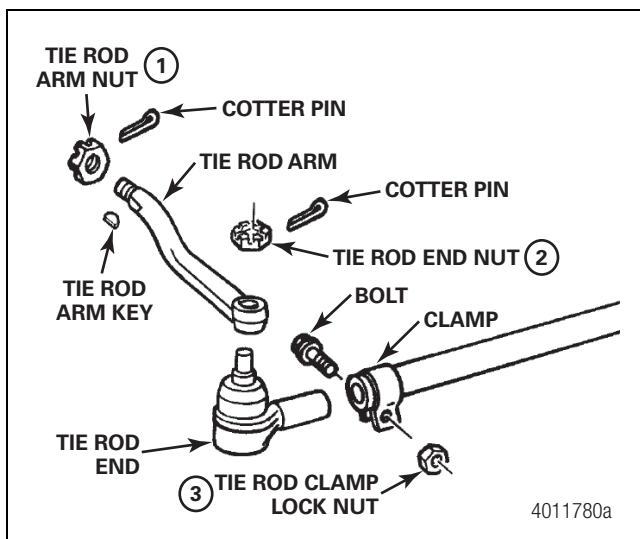

Figure 2
4. Remove the cotter pin that secures the tie rod end castle nut to the tie rod arm. Figure 2.
1. Remove the cotter pin and nut that fasten the tie rod end to the tie rod arm. Figure 2.
3. Remove the tie rod end from the tie rod. Figure 2.
1. Disconnect any steering linkage attached to the tie rod arm. Figure 2.